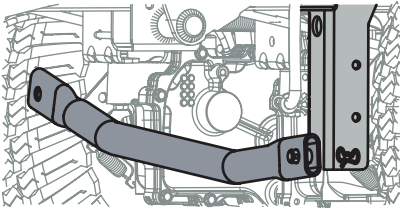

Figure 51
- b. Remove the bow-tie cotter pin on the left side of the bar, connecting the bar with the bracket on the frame (Figure 51).